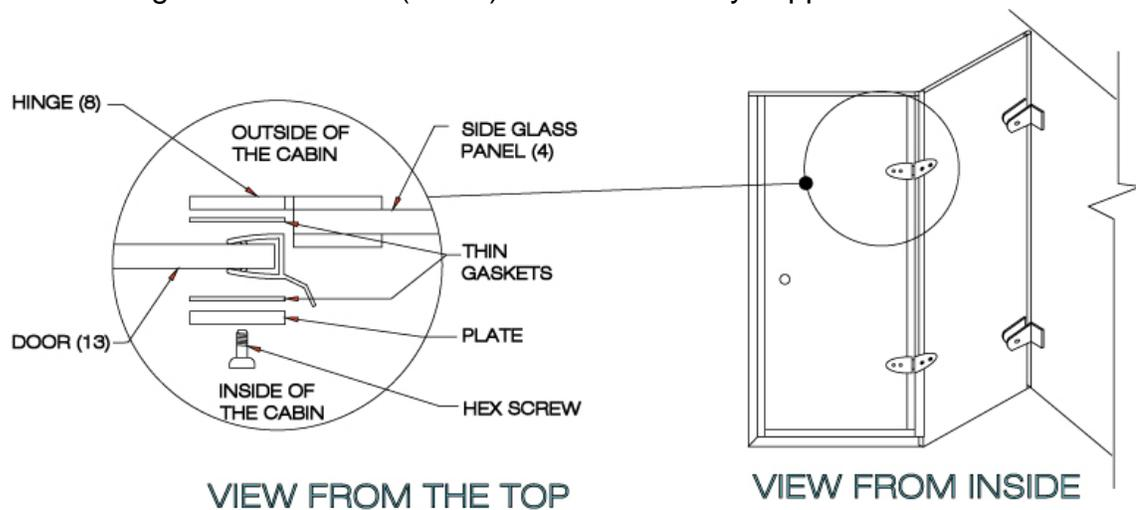

FIG.8
4. Install the hinges as illustrated (FIG.8). Use the hex key supplied.